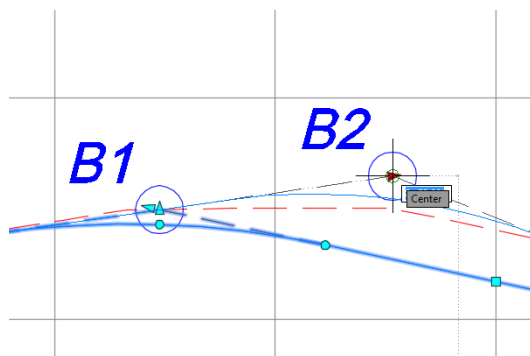

FIGURE 7.4 Moving a tangent slope grip
- At the circle marked B1, click the triangle grip on the right and drag it to the center of the circle marked B2, as shown in Figure 7.4.